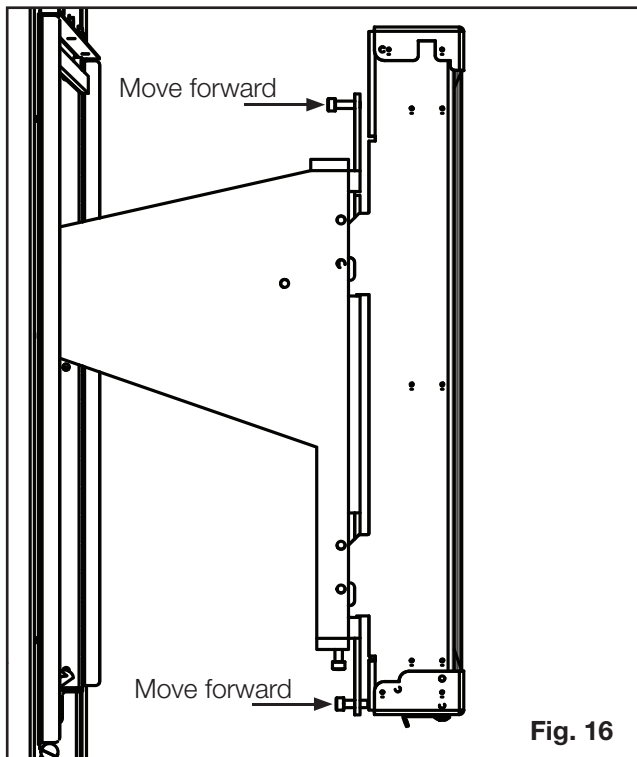

Fig. 16
12. Check if the GGA-1 plane is straight. Adjust with horizontal adjustment screws on both ends, if necessary (**Fig. 16**).